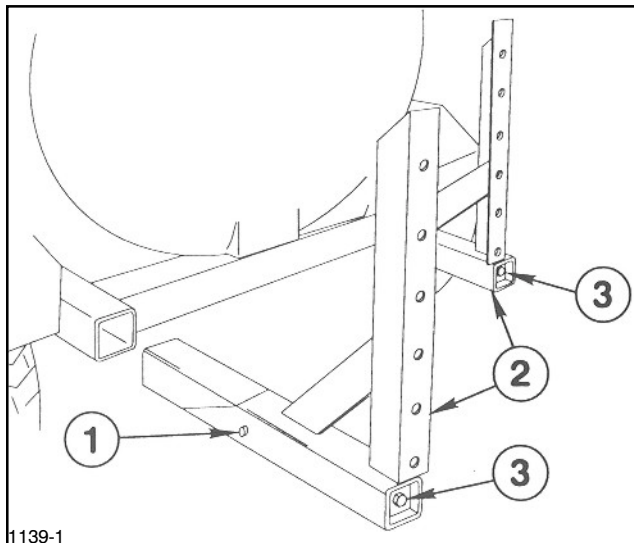

Figure 1
1. Apply a heavy coating of grease to the tubes of the two Boom Mount Assemblies and insert them into the Vehicle Frame until Stop Pin bottoms out against Vehicle Frame. (See FIG. 1.)